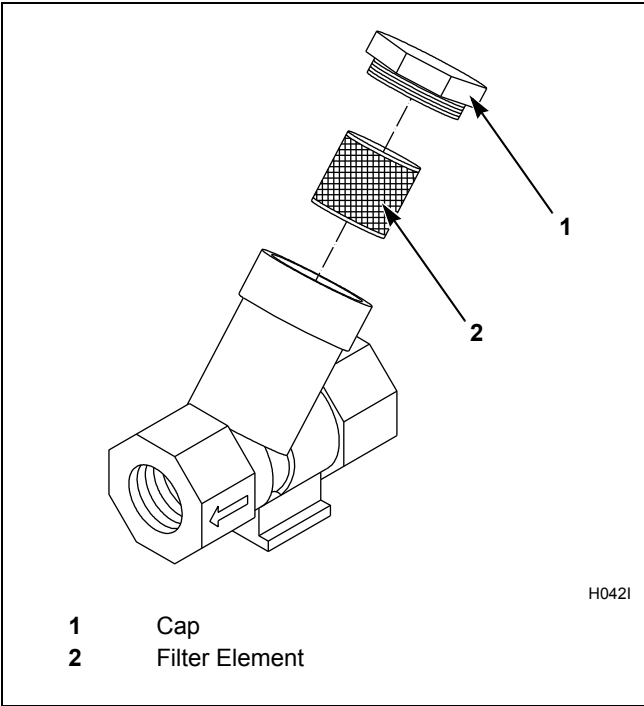

Figure 9
- 5. Clean customer-supplied steam filter, where applicable. Refer to *Figure 9*.